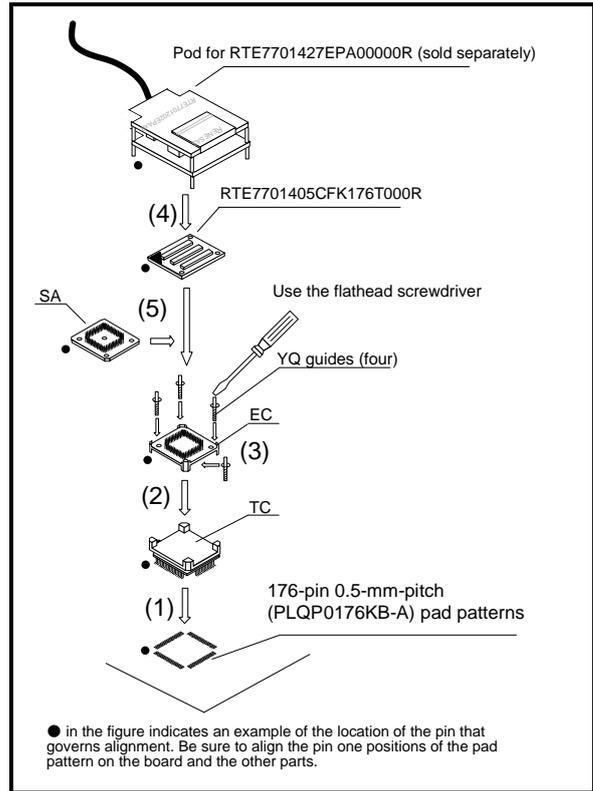

Figure 3 Procedure for Connecting the RTE7701405CFK176T000R
5. Connection Procedure (See Figure 3)